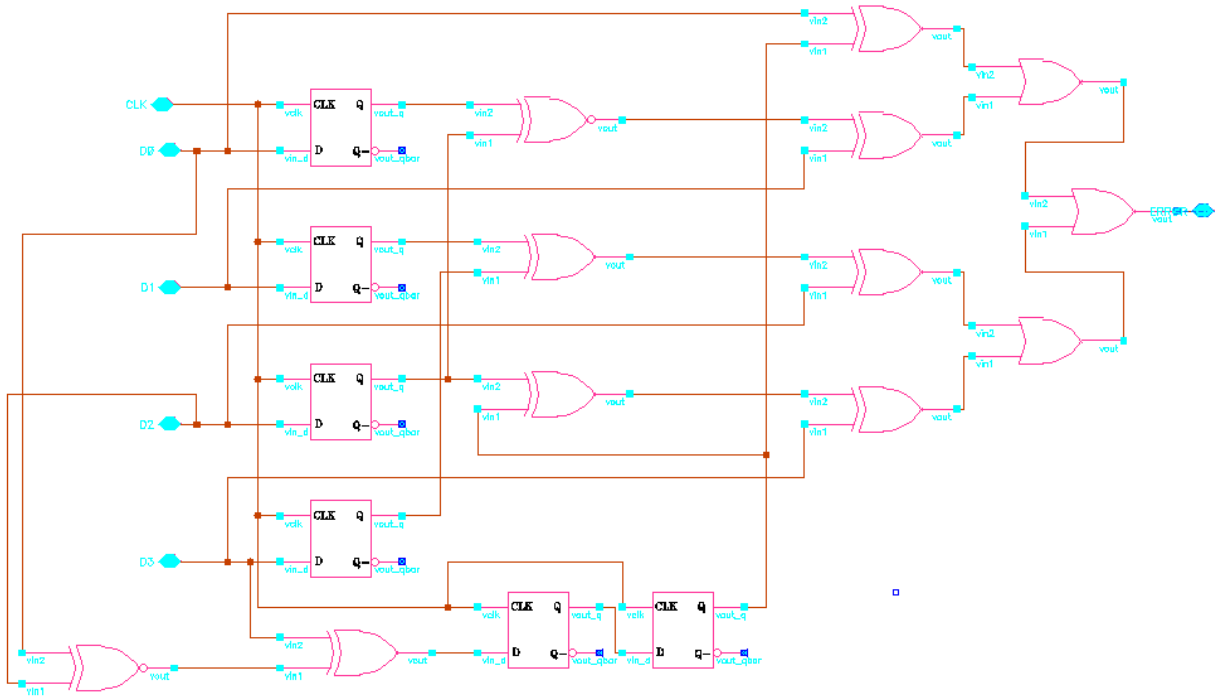

Figure 3 The schematic of 2^7-1 4 bit parallel PRBS detector
- The schematic of 2^7-1 4 bit parallel PRBS detector is shown in Figure 3. AHDL logic models are used to build this circuit.